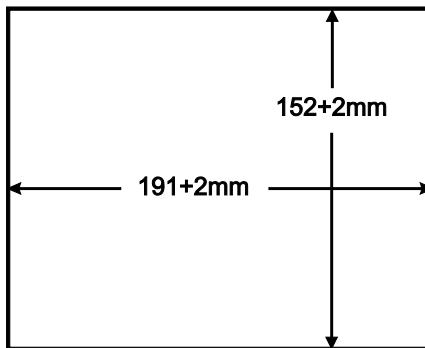

Figure 4: Cutout Dimensions
3. Following the inside edge of the template, cut a hole in the table surface with a sabre or keyhole saw according to the dimensions shown in Figure 4 (not to scale).